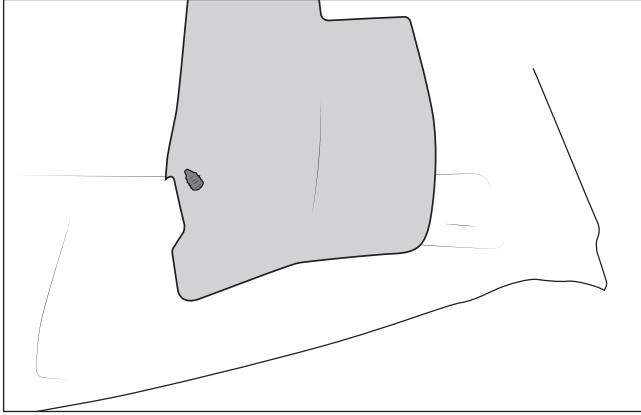

Figure 25
5. Passenger side: Drill  $\frac{1}{4}$ " hole as shown through wheel liner and rigid plastic backing (fig.25). Insert Christmas tree fastener through wheel liner side and through plastic backing to retain liner.